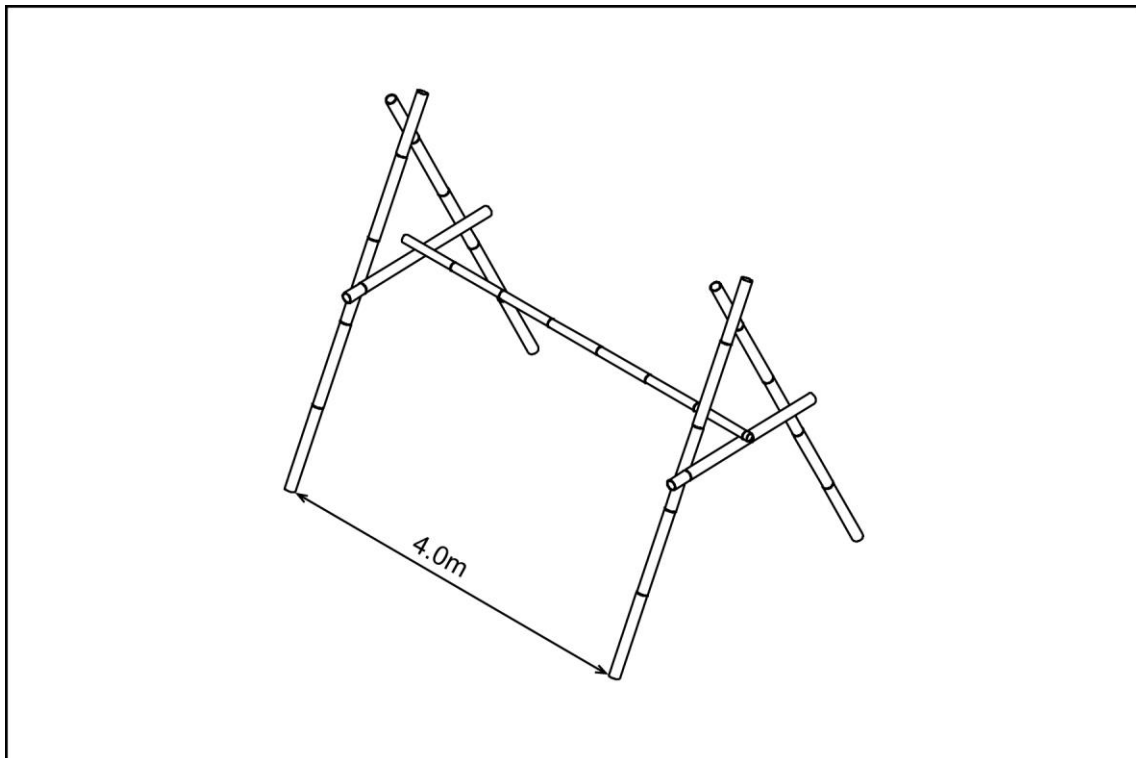

Figure 8: Standing the first 2 posts and middle longitudinal (horizontal) bar (I)
- ◆ Place the central horizontal bar at the mid point of the cross bar of each frame (figure 8).